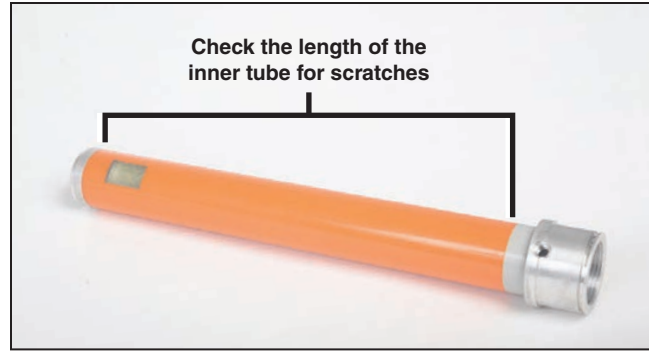

Figure 20. Inspect the inner tube assembly.
STEP 16. Inspect the inner tube assembly. Do not replace the inner tube assembly unless the diameter of the trailer is 0.650 inch (16.5 mm) or less, as described in Step 15(d). If replacement is not required, use water and an abrasive-type household cleanser applied with a bottle brush to remove any surface carbon deposits from the liner of the inner tube assembly. Thoroughly rinse and dry the assembly immediately after cleaning. See Figure 20.